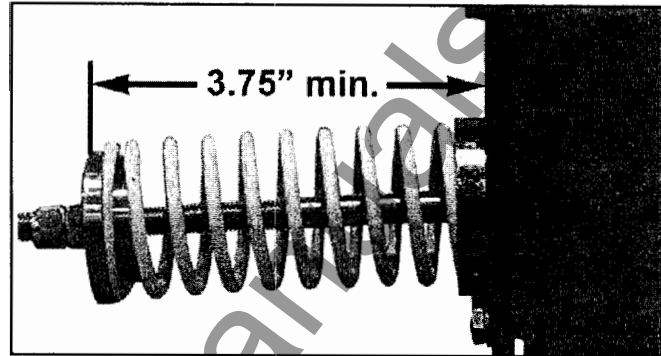
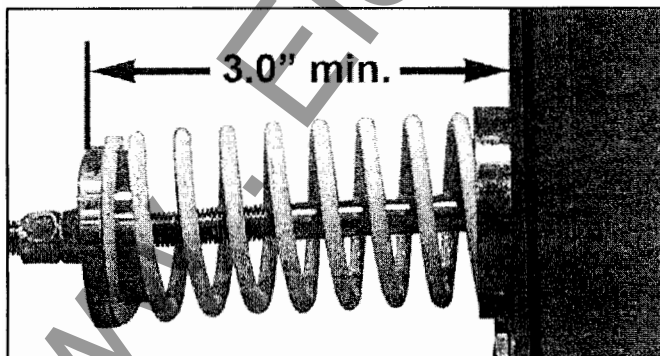

Figure 4-14 **SURE CLOSE** Spring for GE-AM-4.16-VR-3000A
Figure 4-13 **SURE CLOSE** Spring for GE-AM-7.2 / 13.8-VR
**Step 3:** Loosen the jam nut on the **Sure Close** spring and compress the spring an additional .25 inches. Do not exceed the minimum dimension shown in Figures 4-13 through 4-15. Close the breaker.
**NOTE:** For GE AM-4.16 see Figure 4-14 and 4-15, for GE AM-13.8 see Figure 4-13.